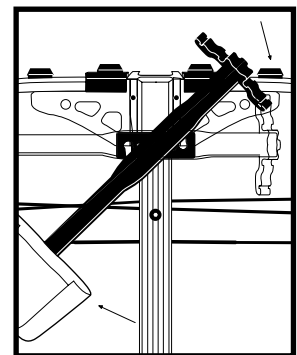

Figure 5E
4. With the underside of the crossbow facing you, and holding the quiver at a 45° angle to the installed Quick Detach Quiver Mount, insert the button on the quiver rail into the middle hole on the Mount, and twist the quiver clockwise until it snaps securely in place. Figure 5E.